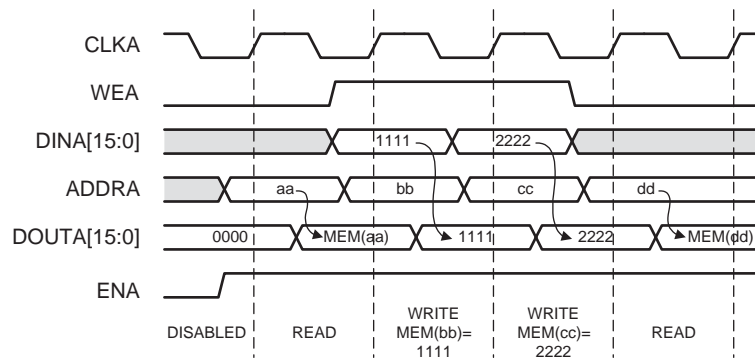

Figure 26: Write First Mode Example
- Write First Mode:** In WRITE\_FIRST mode, the input data is simultaneously written into memory and driven on the data output, as shown in Figure 26. This transparent mode offers the flexibility of using the data output bus during a Write operation on the same port.